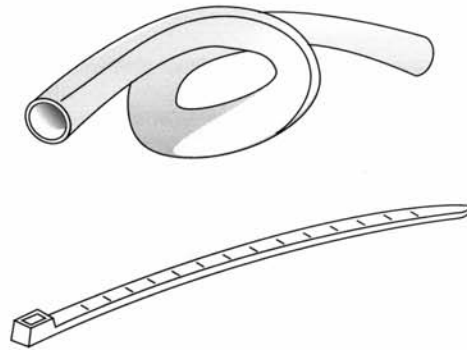

Figure 30. Flexible Plastic Tubing and Tie-wraps.
3. To both protect and conceal wires, we recommend using automotive flexible plastic tubing and plastic tie-wraps to bundle wires for ease of handling (see Figure 30).